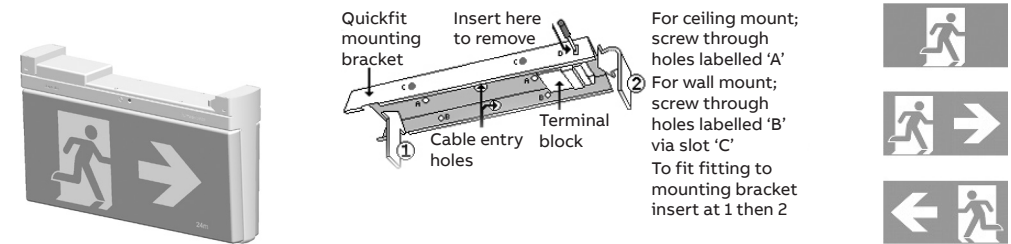

Figure 2: Quickfit insertion diagram and internal view
1. Take the mounting bracket and whilst holding it into place against the ceiling or wall, use a pencil to mark the position of the screw holes (at A or B in figure 2) and cable entry position through the bracket onto the ceiling or wall as appropriate. Make sure to allow at least 50mm of free space to the right hand side of the final location of the fitting to allow for the sliding function of attaching the fitting to the mounting bracket. If need be, turn the bracket around and swap the diffuser with the back plate to permit room for inserting and removing the fitting from the mounting bracket. Orient the bracket in such a way as to make the LED and push button readily visible and accessible when the fitting is installed.
4. Attach the fitting to the mounting bracket by aligning the top left hand end of the fitting (the end without the protruding electrical connecting metal lugs) with the large cut-away slot towards the left hand end of the bracket. Slip the left hand end of the fitting up into the slot in the left hand end of the bracket (step 1 in figure 2) and hold the fitting horizontal to and parallel with the bracket. It should be approximately 50mm to the right of its final destination. Simply slide the fitting (step 2 in figure 2) 50mm to the left along and into the bracket to engage the connections and the locking tab. Once in place, the fitting cannot be removed from the bracket without the use of a tool (a small screwdriver) to push in the locking tab at 'D' in figure 2. Ensure the correct pictograph inserts have been attached to the diffuser assembly.
1. Gently insert a small screwdriver into the slot (at 'D' in figure 2) on the front of the bracket towards the right hand end of the fitting, to ease the locking tab into the fitting and away from the bracket.